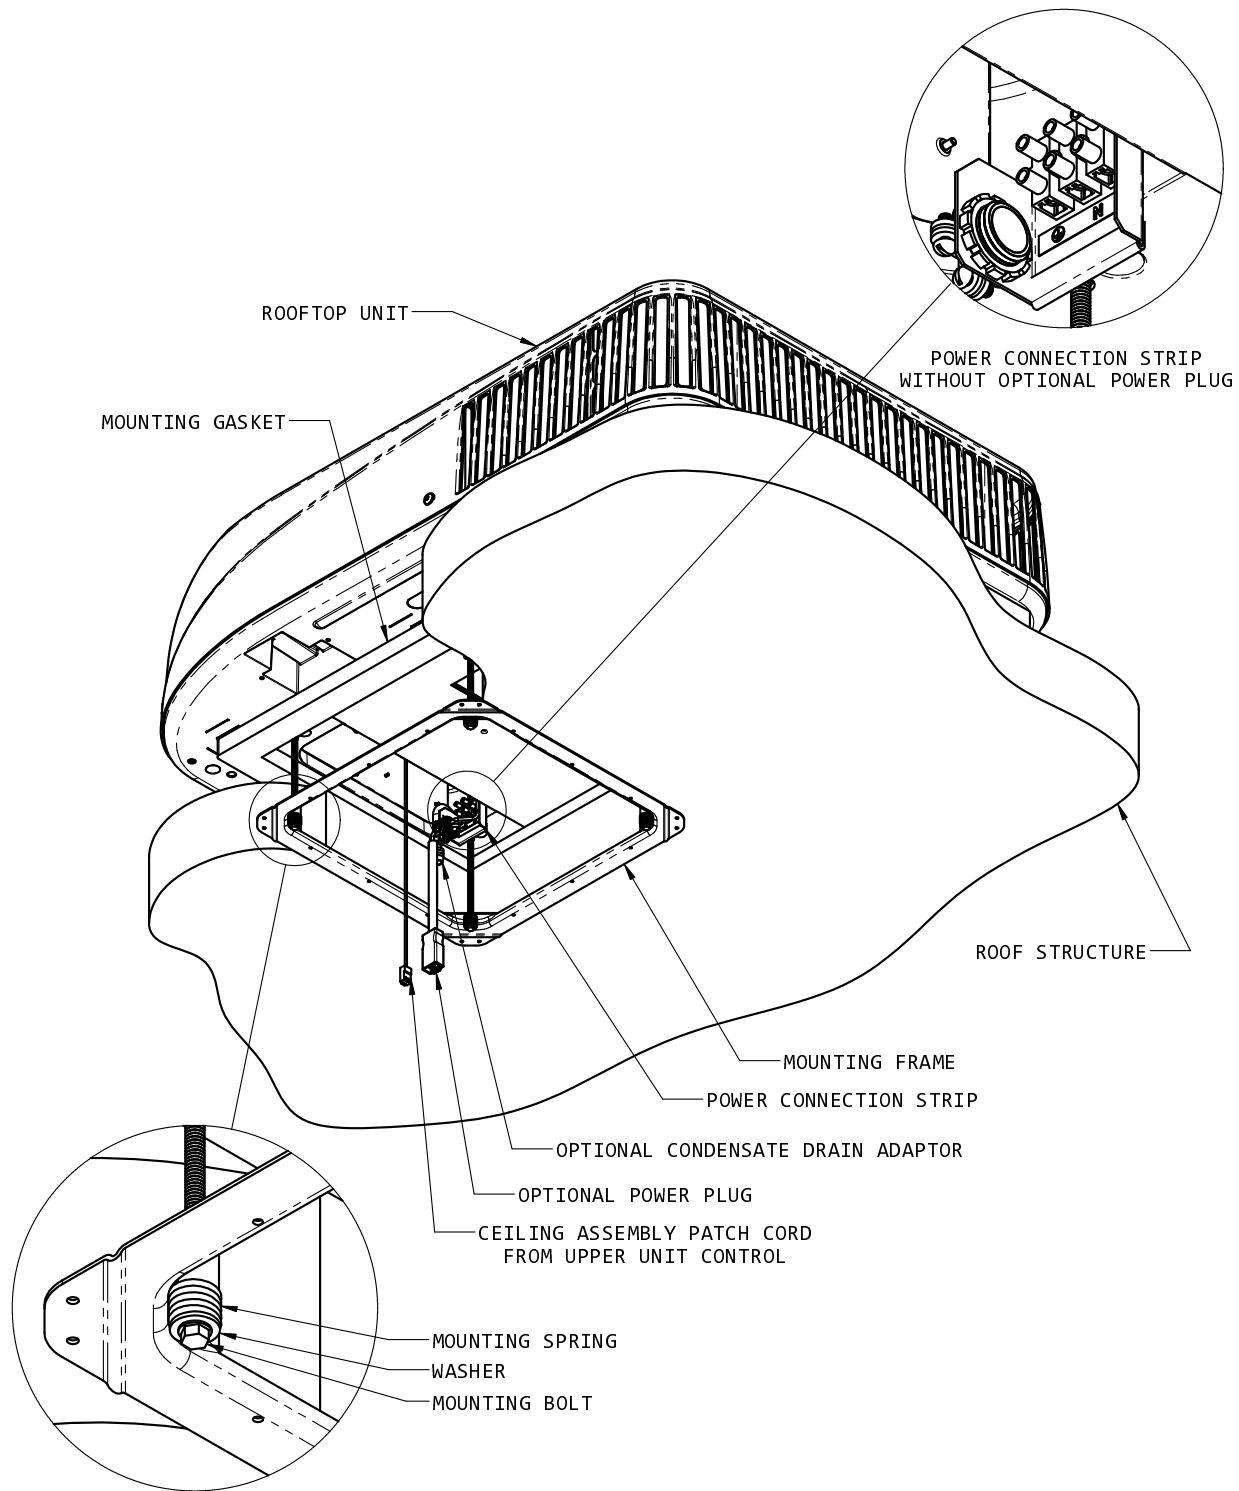

FIGURE 4
See Figure 4
- C. Proper tension has been achieved for each bolt when the spring coils have just come together (See Figure 4). The upper unit has now been properly installed with optimum gasket compression.
- D. If the heat pump is equipped with an optional evaporator condensate pump, a 13 mm I.D. hose must be provided that runs from the 357 mm square opening, through the vehicle ceiling and down the side wall to allow water to drain under the vehicle. The hose must not be allowed to kink shut while making a bend. Connect the top end of the drain hose to the barbed fitting shown in Figure 4.
ROUTING 230/240 VAC WIRING See Figure 4